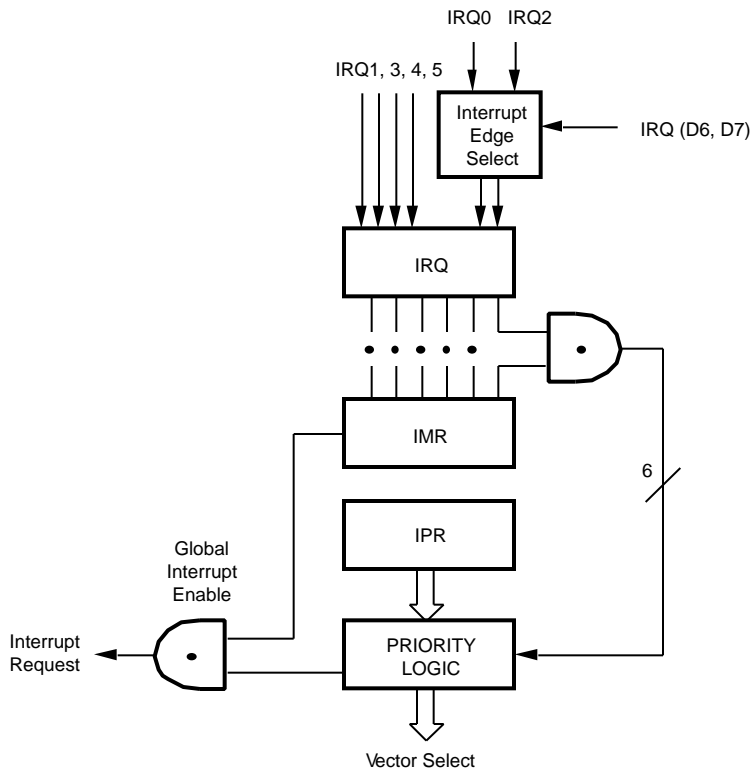

Figure 20. Interrupt Block Diagram
**Interrupts.** The Z8 has six different interrupts from six different sources. These interrupts are maskable, prioritized (Figure 20) and the six sources are divided as follows: four sources are claimed by Port 3 lines P33-P30, and two in counter/timers (Table 11). The Interrupt Mask Register globally or individually enables or disables the six interrupt requests.